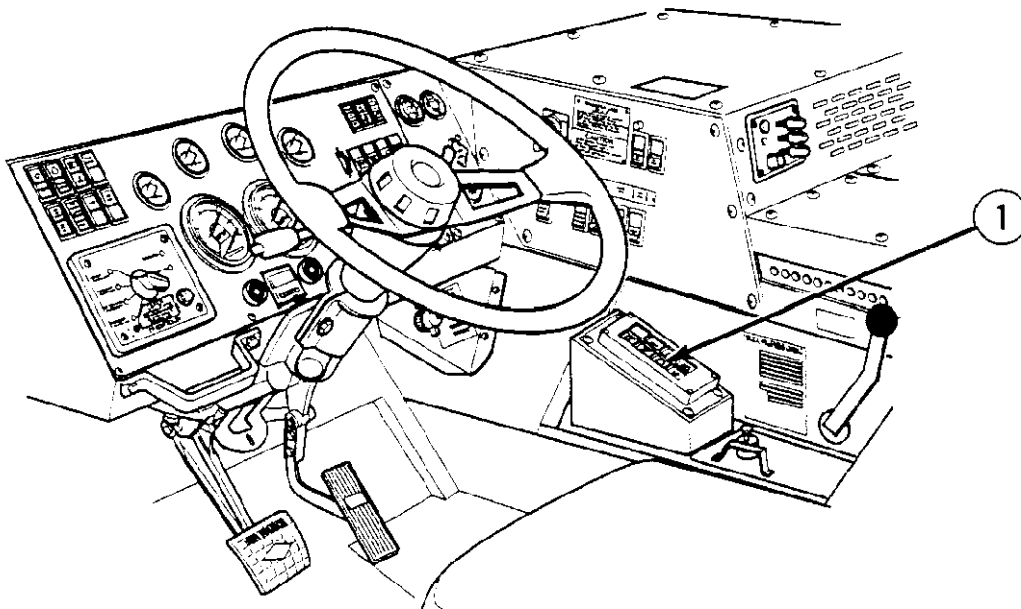

Figure 12. 1 Transmission Selector
12.1.1.2 Put the transmission range selector (Figure 12. 1.1) in Neutral (N) position while engine is running. Let the engine idle for about two minutes before shutting down. Idling will cool the engine faster than quick shutdown and may prevent damage from remaining engine heat.